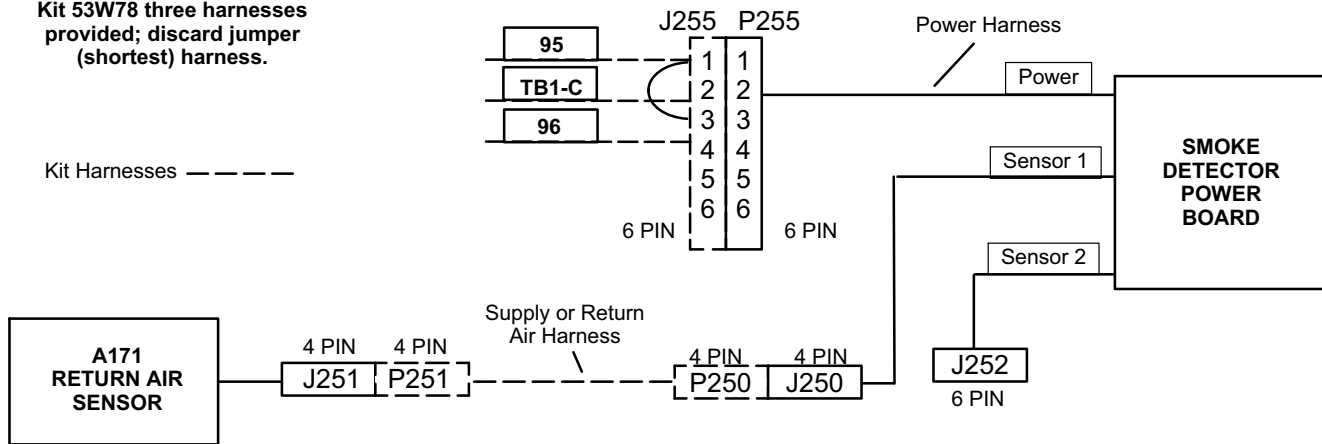
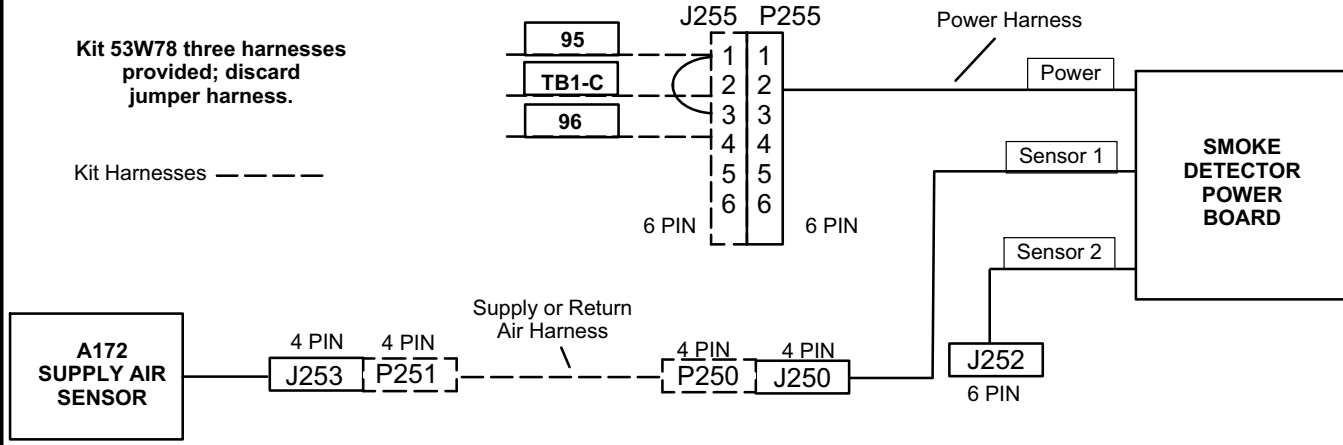
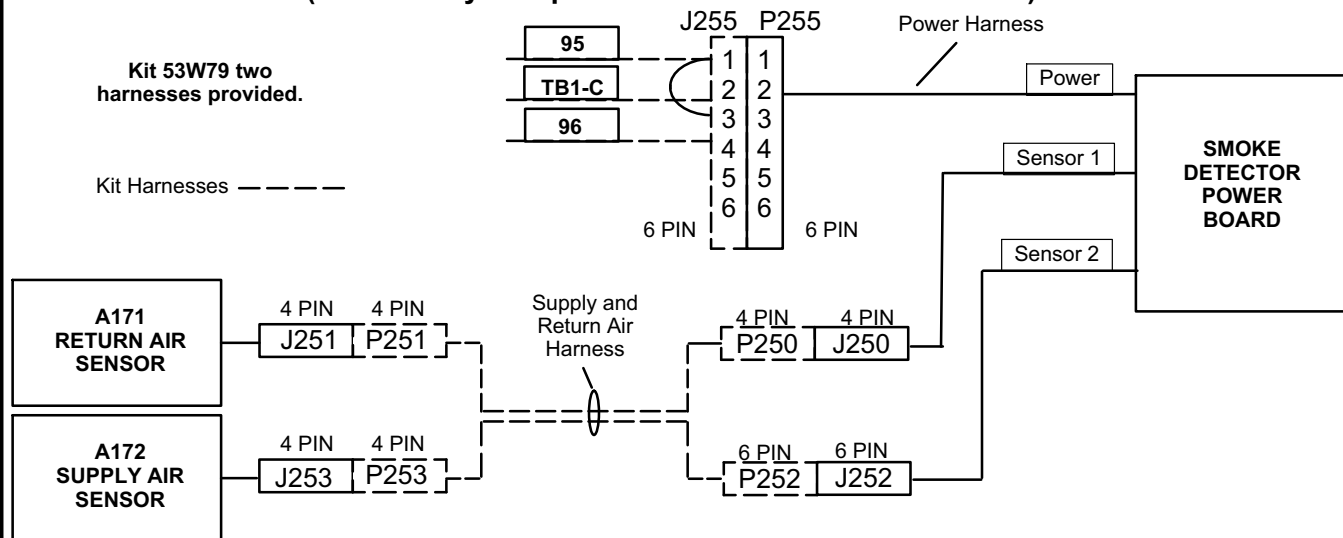

FIGURE 9
FIGURE 10
FIGURE 11
- 4 - Make jack/plug connections as shown in figure 9 when installing return air smoke detector only, figure 10 when installing supply air smoke detector only, and figure 11 when installing both supply and return air smoke detectors. Refer to respective wiring diagrams in figure 12, 13 and 14.